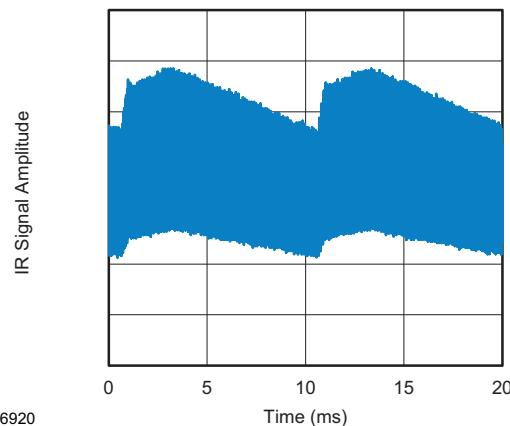

Fig. 13 - IR Disturbance from Fluorescent Lamp
- Strongly or weakly modulated noise from fluorescent lamps with electronic ballasts (see Fig. 13 or Fig. 14)